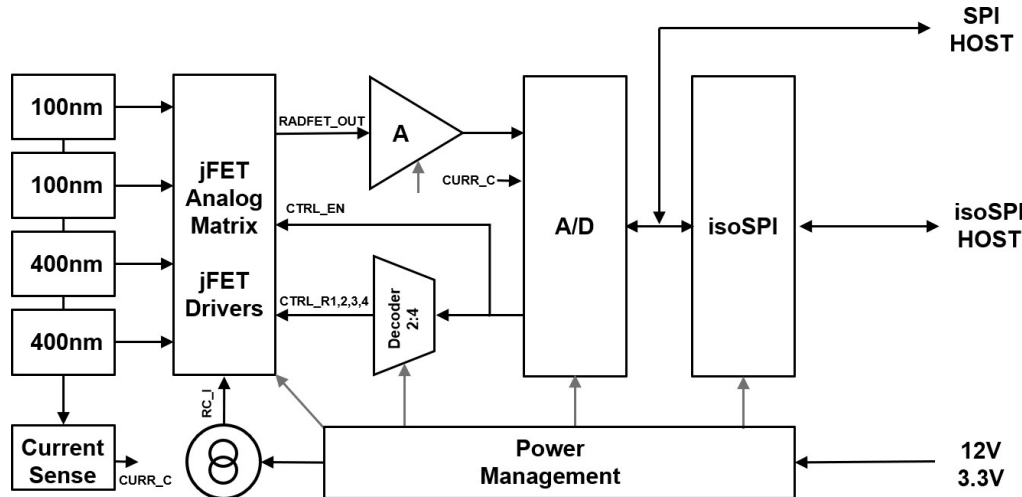

Figure 2: VT-DRM(S) schematic diagram
The schematic diagram of the VT-DRM(S) module is shown in Figure 2.